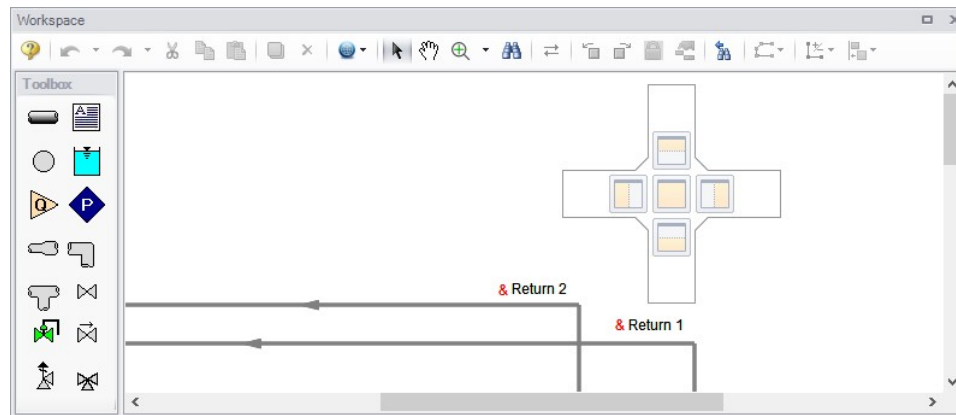

Figure 1: The Docking Guide can be used to view multiple primary window tabs at the same time
- **Primary Windows** - Allows you to configure the Primary windows in two panes in a horizontal or vertical orientation. The primary windows can be further rearranged by dragging the tabs into the center of the screen and adjusted by moving the tab into the desired position in the docking guide (see Figure 1).